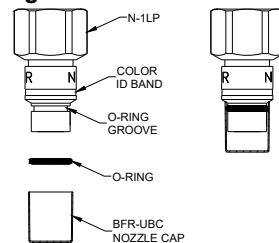

Figure B-5.
The **Model BFR-UBC-10** comes complete with ten (10) stainless steel blow-off caps and ten (10) O-rings. An O-ring must be installed in the slot provided in the nozzle tip as shown in **Figure B-5**.